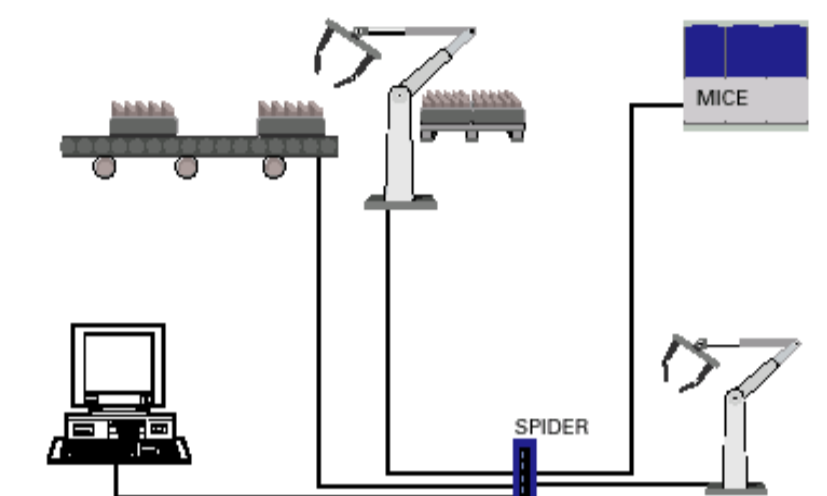

Fig. 4: Configuration with SPIDER 8TX-PRO
- with SPIDER 8TX up to eight data terminal equipment (DTE) or other network segments to the 10/100 Mbit/s ports using twisted pair cabling. (ref. Fig.4)